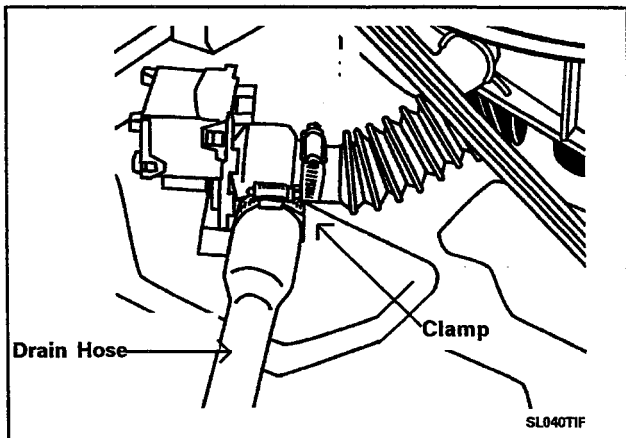

Figure 2-40
4. With access into the machine compartment, spread a towel under the connection of the drain hose to the pump. Loosen the clamp and remove the drain hose (*Figure 2-40*).